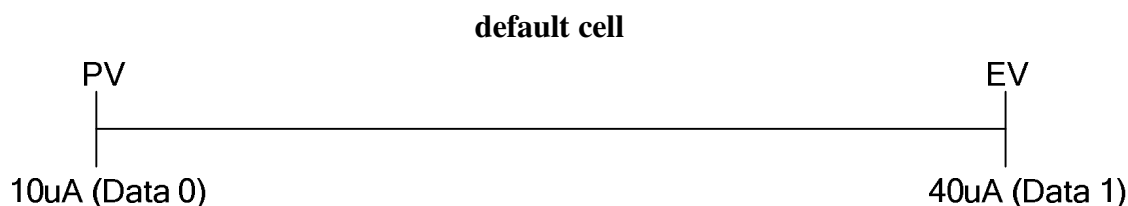
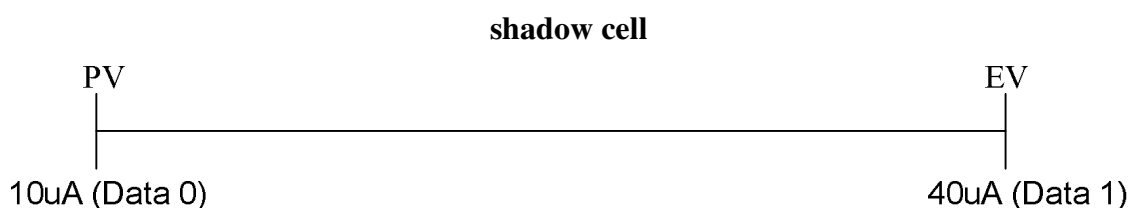

Figure 2.
Figure 3.
- If the circuitry sensing the default cell with current value of EV is bigger than PV (ex. 10uA) of the homologous shadow cell, the bit in read operation will be regarded as logic “1”. On the contrary, if the current value of PV of default cell is smaller than EV (ex. 40uA) of the corresponding shadow cell, the bit is treated as logic “0”. Please refer to Figure 2 and Figure 3 for reference.